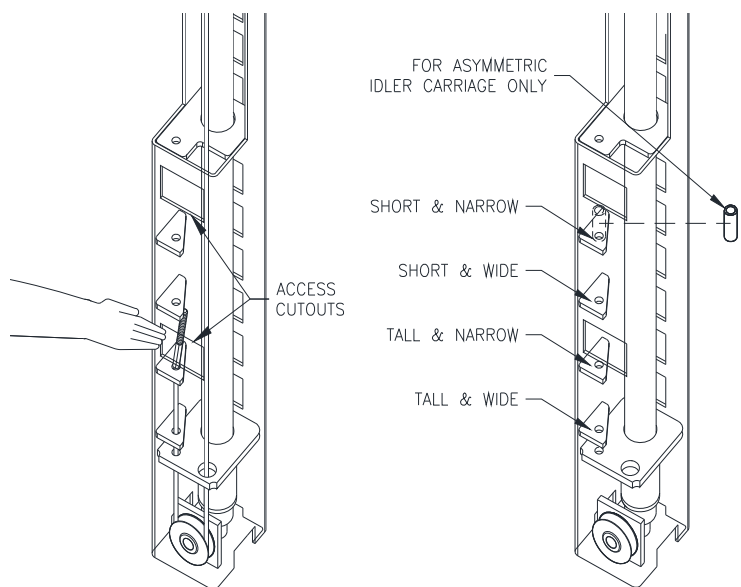

Fig 12a – Cable Attachment Points
- 24) Each cable is pre-routed around base sheave and up through the bottom of the Carriage. Attach that end of the Synchronizing Cable to the proper carriage tab according to **Fig 12a**. For Asymmetrical lift, use 85mm lg. spacer in Idler Carriage above appropriate tab.